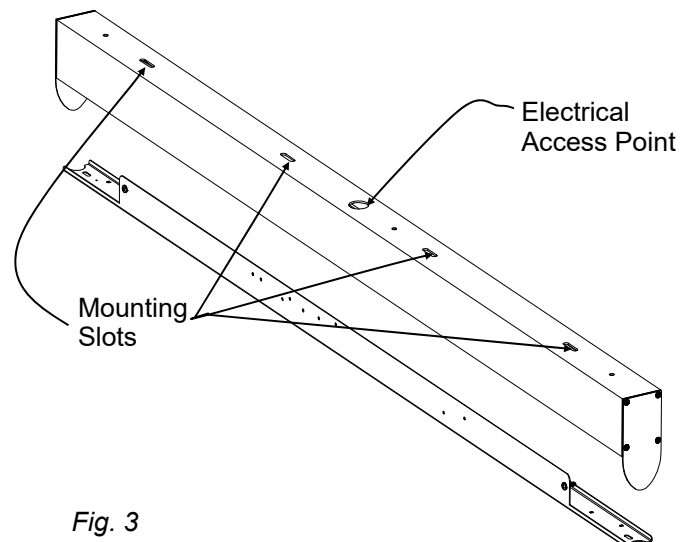

Fig. 3
5. Feed electrical wires through access hole. Secure the fixture to ceiling surface at its intended location with appropriate hardware (supplied by others). On a 4-footer fixture, four (4) mounting slots are provided (Fig 3). This configuration may vary depending on fixture length.